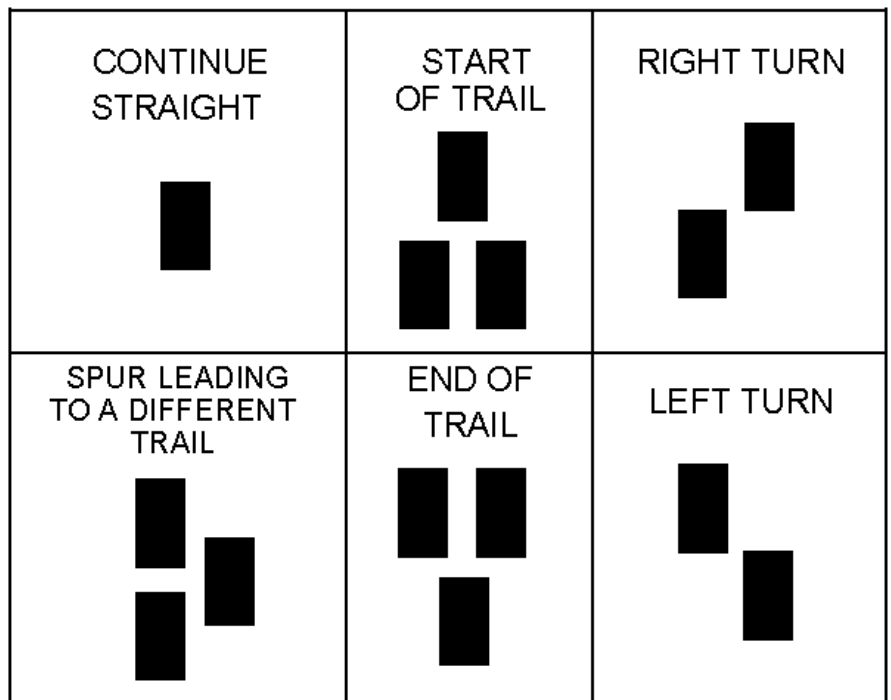

Figure 1. Blazing marks for use on Ouachita Trail
- For many years the Ouachita Trail has had the right or left slanted double blaze signifying a turn. Do not refresh these slanted blazes. Paint the new correct turn signal blaze shown in figure 1 just under the old slanted one. Eventually they will all be replaced and the old incorrect slanted blaze will fade away.
- Paint “turn signals” at vague, confusing, or abrupt turns. See figure 1. We will be using the Right Turn, Left Turn, and Continue Straight blazes shown in figure 1.